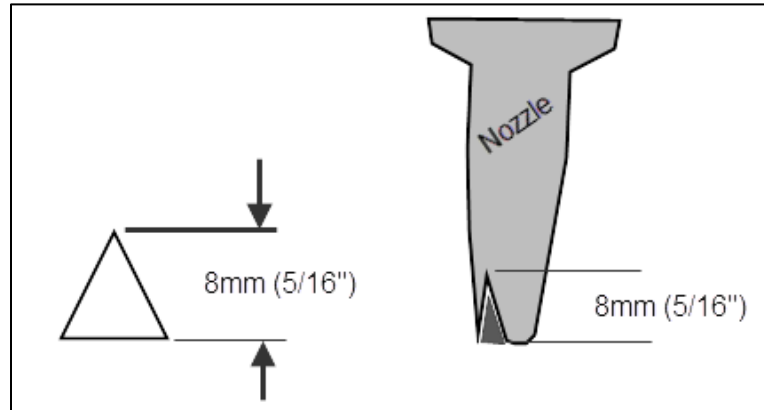

FIGURE 3 TRIANGULAR BEAD OF GLUE
4. Select a glue applicator nozzle that creates 8mm high glue beads. (Figure 3)
5. If unavailable, cut an 8mm high triangular opening in the tip. (Figure 3)